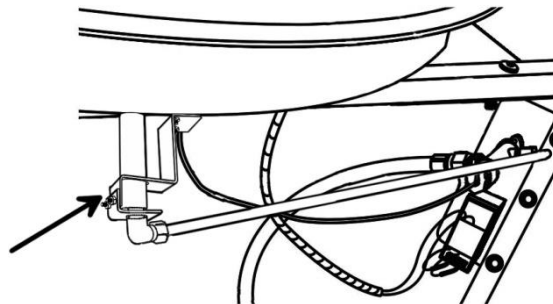

Figure 8
2. Disconnect the gas tube from the orifice and remove the orifice holder as shown in Figure 8.